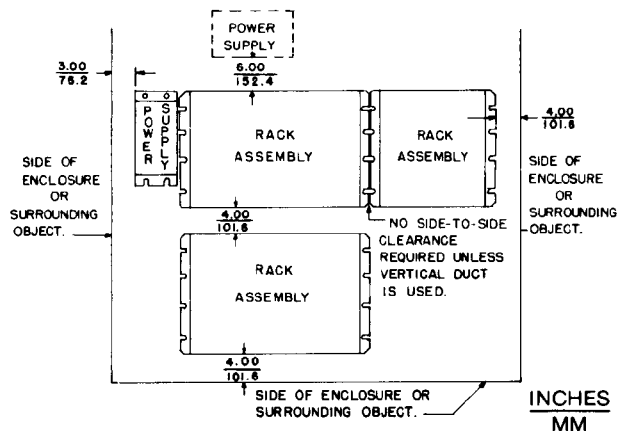

Figure 4 Rack Assembly Mounting Configurations
- The rack assemblies (Figure 4) can be mounted above each other or side by side. A minimum clearance of four inches (101.6 mm) is required between racks mounted above each other. If a vertical duct is used between racks mounted side by side, appropriate spacing must be allowed.